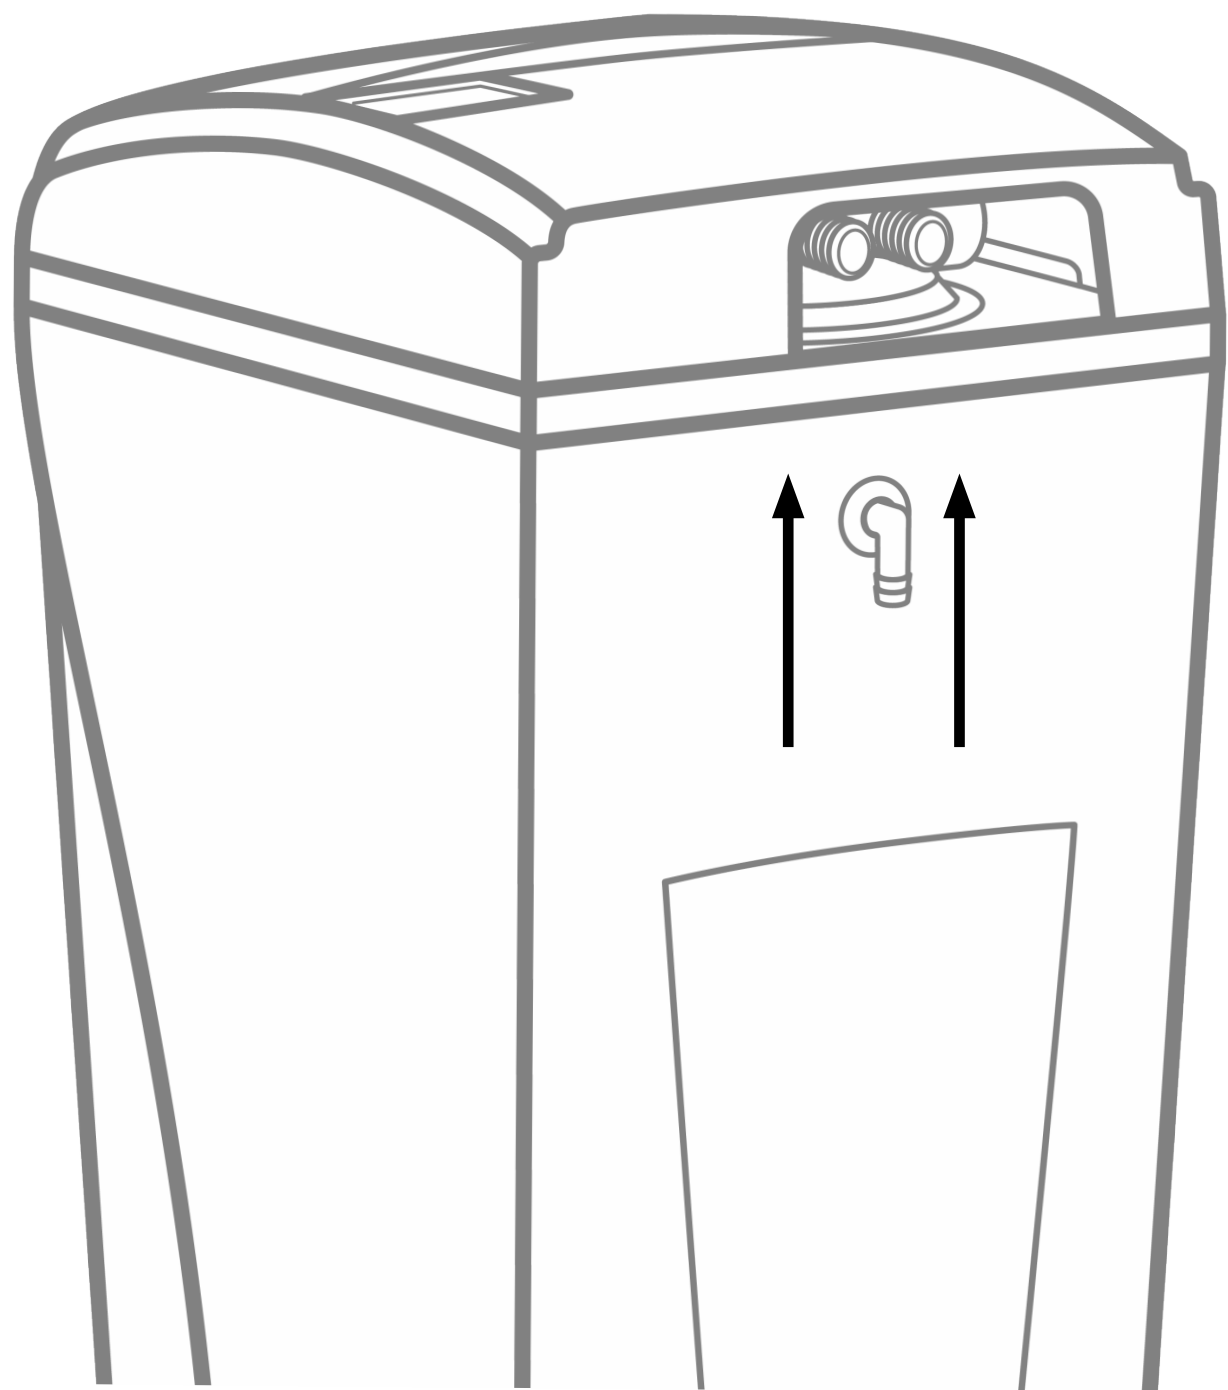

Figure 3: Gravity Overflow Connection
- 1. Attach the gravity overflow connection elbow and check that it is in the down position. (See Figure 3)